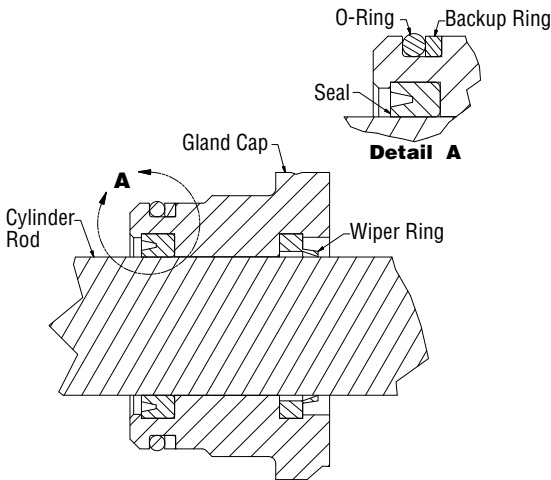

Figure 5-7, Gland Cap Seal
3. Install the seals and wipers in the gland cap. Note the direction of the seals. The cupped side or O-Ring side of the seal should be facing the piston. (Figure 5-7)